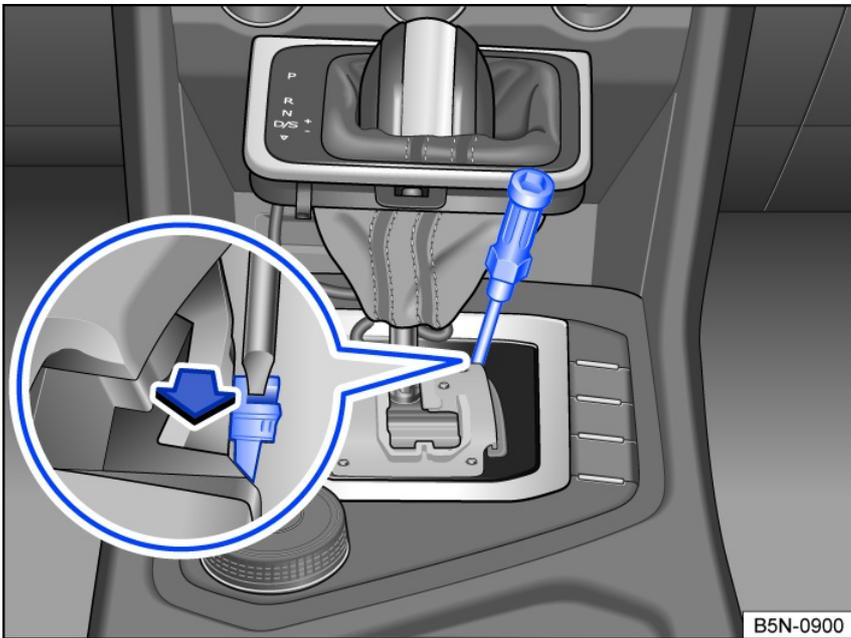

Fig. 121 Manually release the selector lever lock.
- Push the release lever in the direction of the arrow *fig. 121* and hold it in this position.